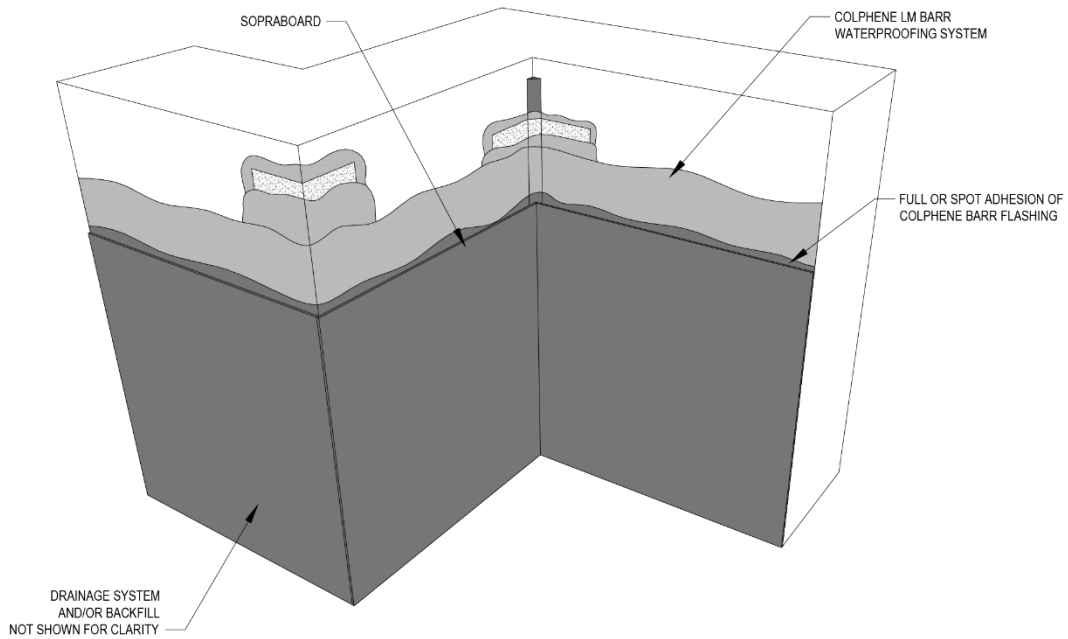
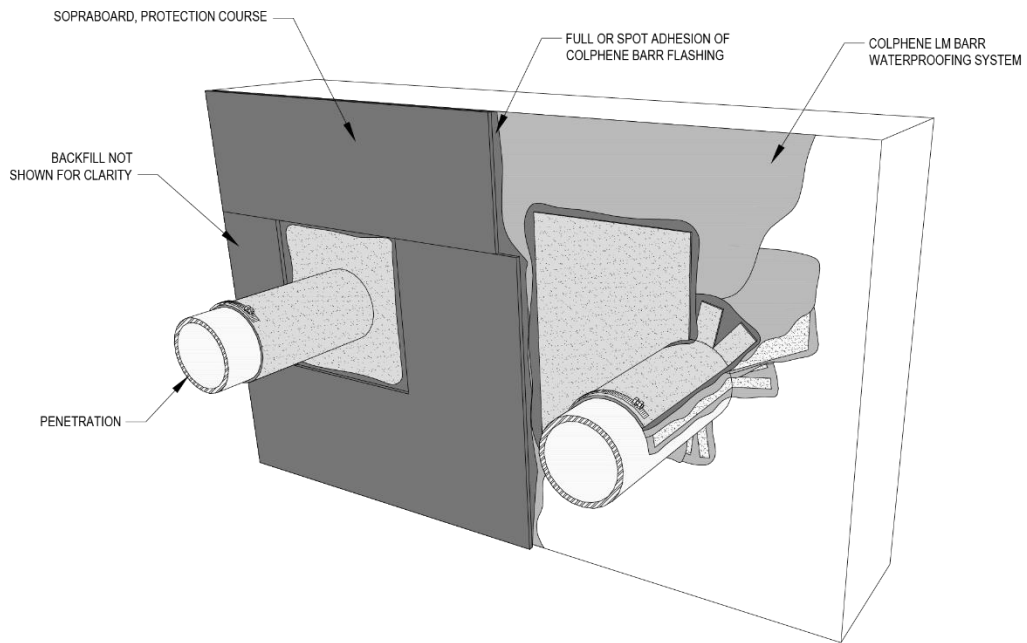
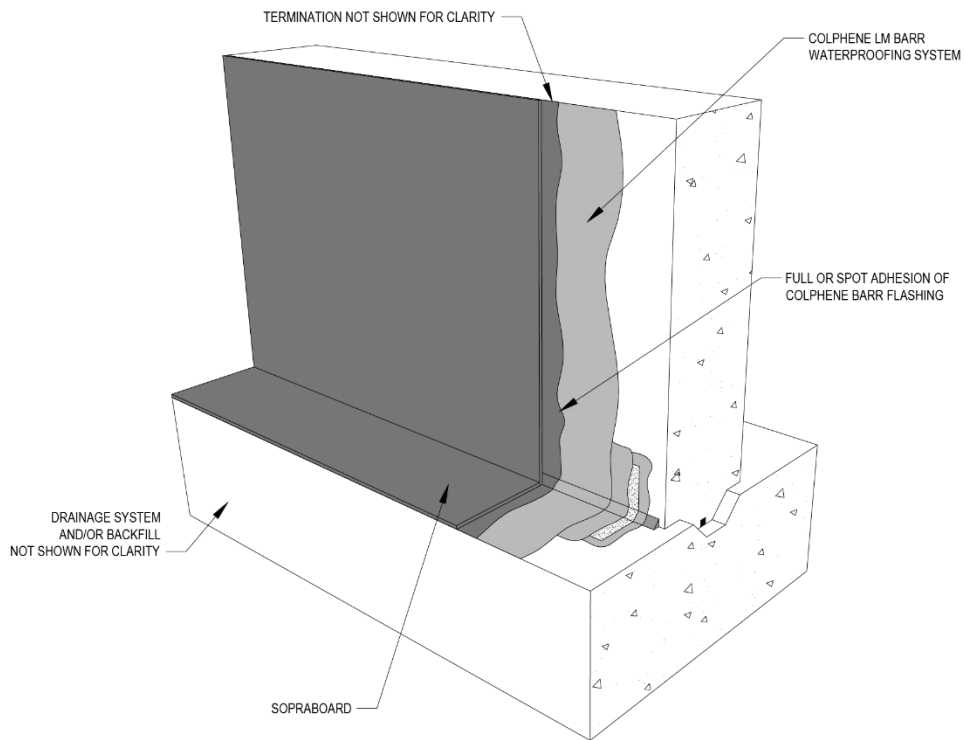

Figure 3.1b SOPRABOARD™ Protection Course At Inside/Outside Corners
Figure 3.1g SOPRABOARD™ Protection Course At Penetrations
Figure 3.1l SOPRABOARD™ Protection Course At Transitions
- Ensure the SOPRABOARD™ is installed to cover and protect all COLPHENE® LM BARR surfaces. Refer to Figure 3.1b, Figure 3.1g, and Figure 3.1l.
- Overlap SOPRABOARD™ onto the flashing protection course to ensure the COLPHENE® LM BARR waterproofing is not exposed. Refer to Figure 3.1g.